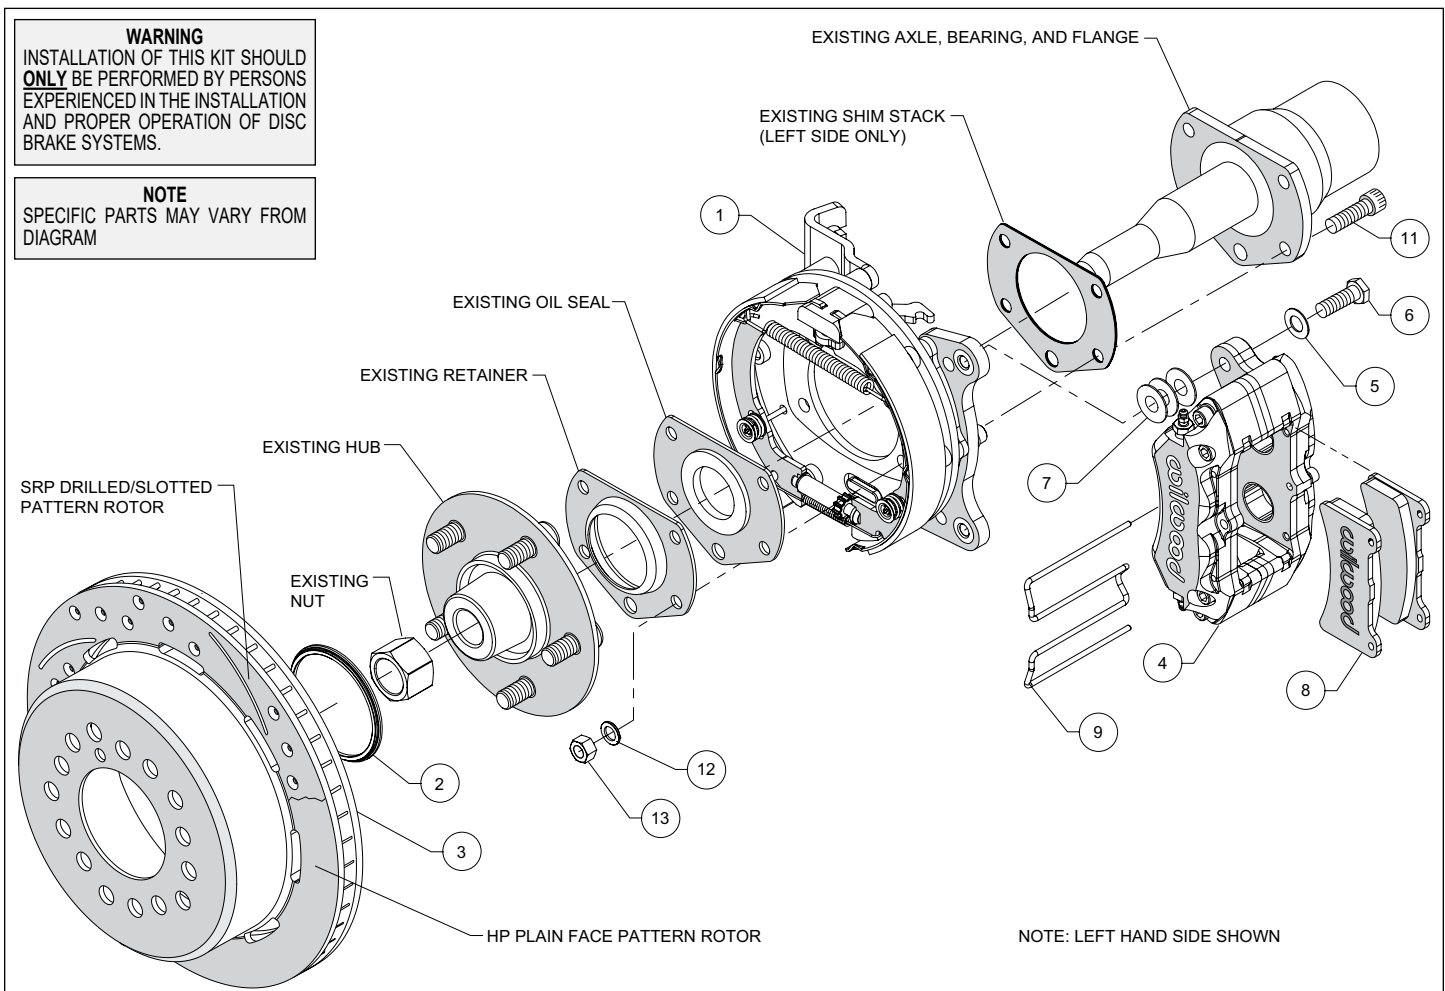
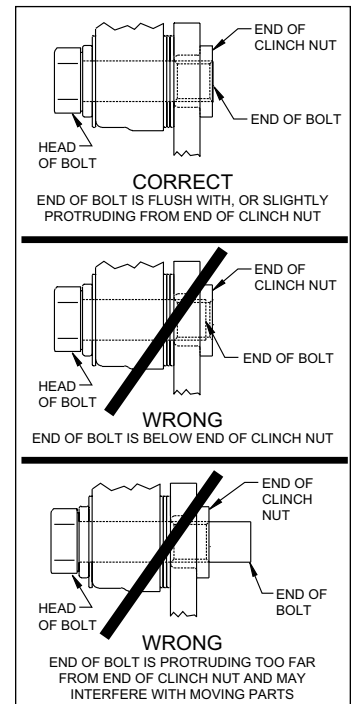

Figure 1. Typical Installation Configuration
Figure 4. Clinch Nut Engagement Diagram
Remove the rear wheels and disassemble the drum brake assembly down to the bare axle. Save the OEM retainer and left side axle flange shim stack. Refer to Figure 1.
NOTE: Numbers in parenthesis refer to the parts list and Figure 1 on the preceding pages.
CAUTION: All mounting bolts must fully engage clinch nuts. Be sure to check that all bolts are either flush or protruding through flanged side of clinch nut after shimming, Figure 4.
- Orient the bracket assembly (1), as shown in Figure 1, and Photo 2. Install a new OEM seal plate (not included), Photo 3, and OEM retainer, Photo 4. Secure using bolts (11), washers (12), and nuts (13). Apply red *Loctite*® 271 to the bolt threads and torque nuts to 40 ft-lb.
- Slide the rotor registration adapter (2) onto the axle register on the axle flange with the smaller O.D. facing toward the rotor/hat (3), Photo 5. Align the correct hole pattern in the rotor/hat with the stud pattern on the axle flange and slide into place, Figure 1 and Photo 6. **NOTE:** The rotor/hat must fit flush against the axle flange or excessive rotor run out may result.
•**NOTE:** Please reference the caution statement at the beginning of the assembly instructions. Mount the caliper (4) onto the caliper mounting bracket (1) using bolts (6) and washers (5), as shown in Figure 1. Initially place three .035" thick shims (7) on each bolt between the caliper and the bracket, Photo 7. Temporarily tighten the mounting bolts and view the rotor (3) through the top opening of the caliper. The rotor should be centered in the caliper, Photo 8. If not, adjust by adding or subtracting shims between the bracket and the caliper. Always use the same amount of shims on each of the two mounting bolts. **NOTE:** The end of each bolt must be flush with or slightly protruding from the head of the clinch nut, as shown in Figure 4. If necessary place spare shims between washer (5) and caliper mounting ear to achieve the proper clinch nut engagement. Once the caliper alignment and clinch nut engagement are correct, remove the bolts one at a time, apply red *Loctite*® 271 to bolt threads, and torque to 40 ft-lb.
•Install the disc brake pads (8) into the caliper, with the friction material facing the rotor (3), and secure in place using pad clip retainer (9), Photo 9.
•**NOTE:** Clevis and cable kits which attach to the parking brake assembly are not included in the Wilwood parking brake kit. Wilwood offers a custom parking brake cable kit, P/N 330-11954 for this application which can be ordered separately from your local Wilwood dealer or by calling Wilwood customer service at (805) 388-1188.
•Before final installation of the wheel, install three lug nuts, remove the rubber grommet in the bracket kit assembly (1) and adjust the parking brake shoes outward (using a drum shoe adjustment tool available at your local auto parts store) while spinning the rotor/hat (3) until a slight drag is felt against the hat/drum. Replace the rubber grommet when finished.
•Install adapter fitting (10) into caliper and attach brake line to fitting. **NOTE:** It may be necessary to re-route the OEM line to reach caliper.
•**NOTE:** OEM rubber brake hoses generally cannot be adapted to Wilwood calipers. The caliper inlet fitting is a 1/8-27 NPT. The preferred method is to use steel adapter fittings, supplied with kit (10) at the caliper (use PTFE tape on pipe threads for proper sealing to caliper), and enough steel braided line to allow for full suspension travel. **Carefully route hoses to prevent contact with moving suspension, brake or wheel components.** **NOTE:** Wilwood hose kits are designed for use in many different vehicle applications and it is the installer's responsibility to properly route and ensure adequate clearance and retention for brake hose components. Wilwood offers universal brake flex line hose kits, order P/N 220-7056 for the 14 inch length, P/N 220-7699 for the 16 inch length, or P/N 220-8307 for the 18 inch length. Hose kits include hoses, fitting, etc., all in one package for this application.